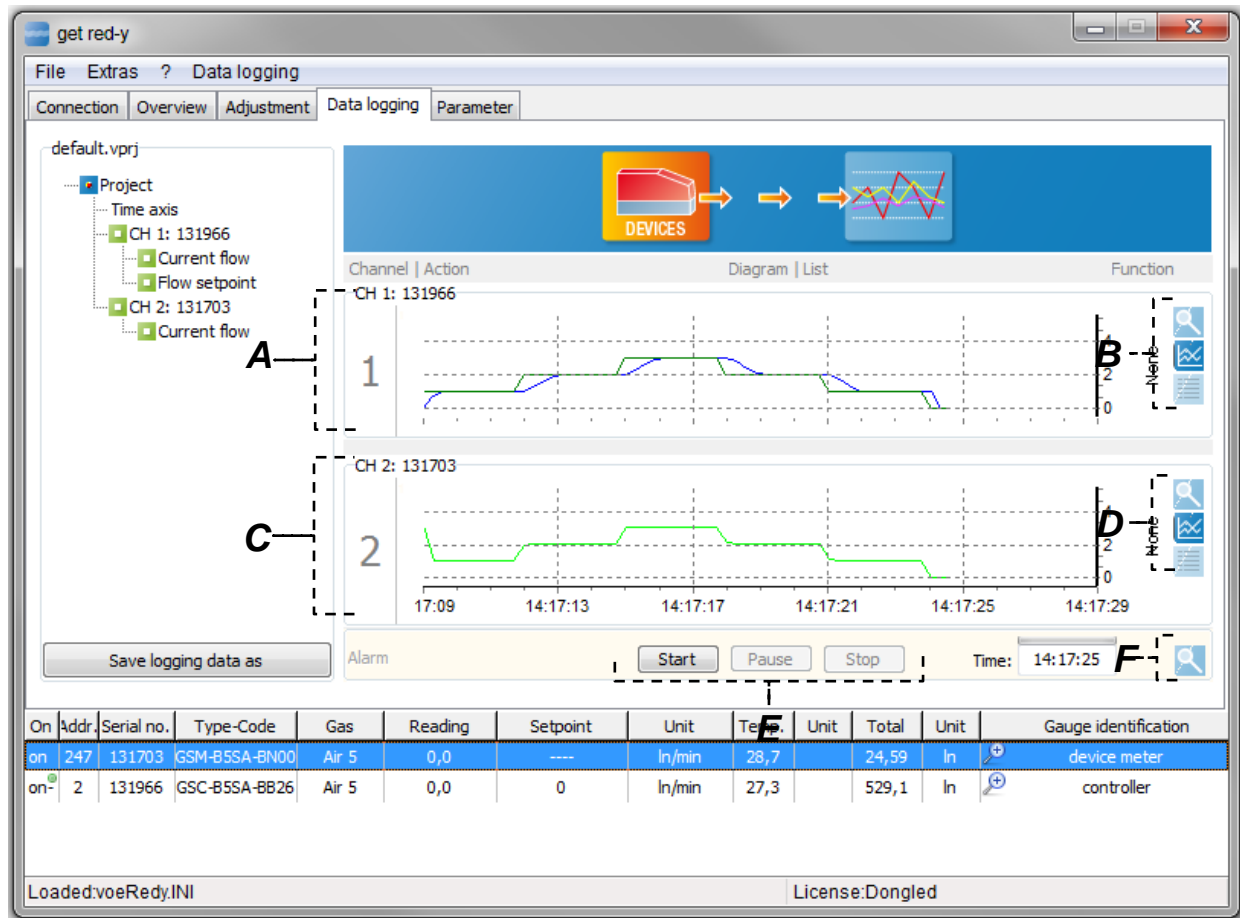

Figure 43: Representation of the registered signals (actual value flow, set point flow) of both channels (devices).
- A. Channel 1:** Here the sequence of the Scriptwalker is graphically represented. In Figure 43 you see the sequence of the script. You see the set points (green) which are chronologically controlled by the script and the actual value (blue). Right mouse clicking within the diagram allows you to copy the measurement data to the clipboard. The data from the clipboard can be copied to Excel with [CTRL+C].